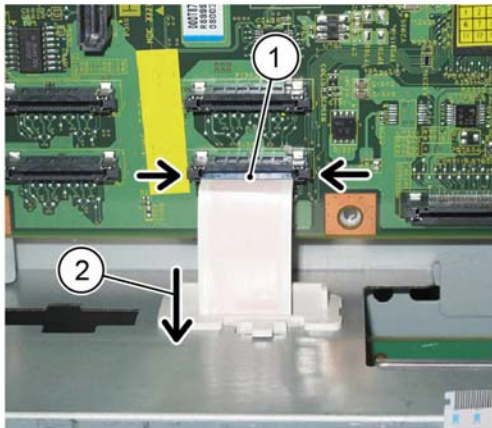

Figure 5 FFC cable
8. Disconnect the FFC cable, Figure 5:
- Carefully disconnect the FFC cable (1) by releasing the side clips.
- Pull down the FFC cable (2).